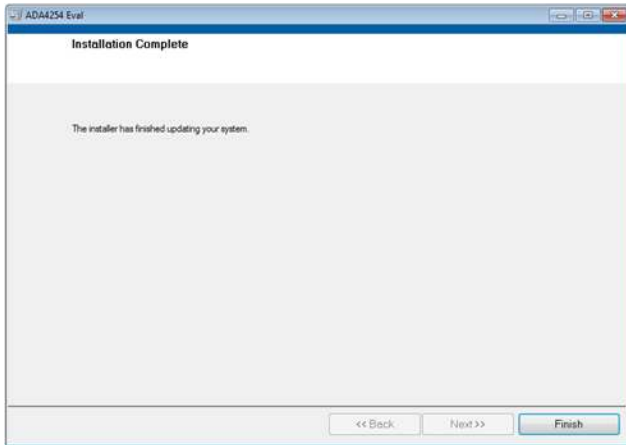

Figure 11. **Installation Complete** Window
8. The pop up window shown in Figure 11 opens when the software installation is complete. Click **Finish** to proceed.